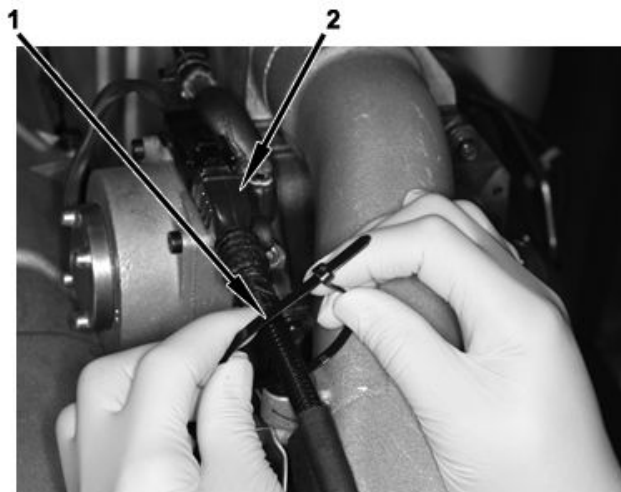

Figure 42. EGR Valve Electrical Connector.
23. Install wire tie (Figure 42, Item 1) located before the EGR valve electrical connector (Figure 42, Item 2).